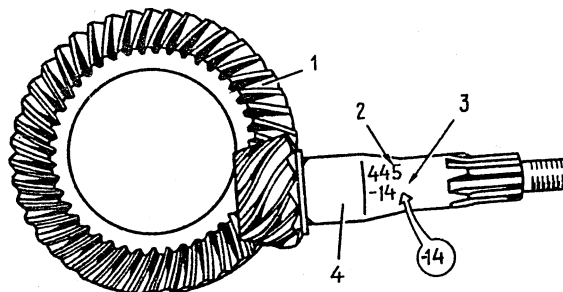

Fig.3-69. Final Drive Gears:
- b - deviation of the drive pinion from the nominal position in millimeters. The value of deviation is marked on the drive pinion (Fig. 3-69) in the hundredth fractions of a millimeter with a plus or minus sign.